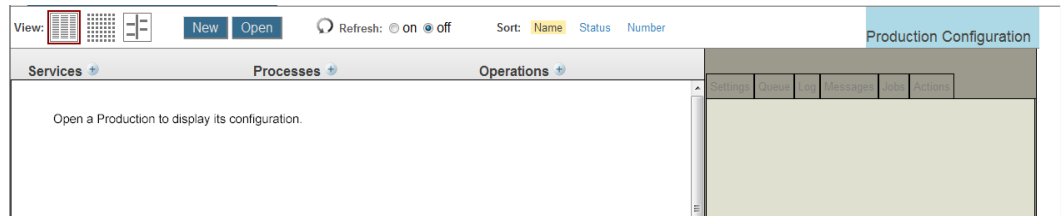

Figure 5-7: Open Production to display
4. If this is the first time the production is opened in the current namespace, the ribbon bar of the page appears as shown in Figure 5-7.